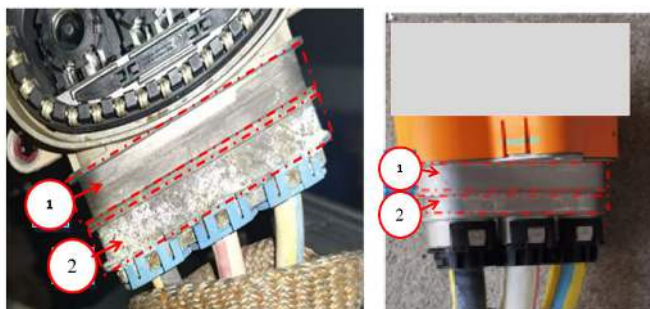
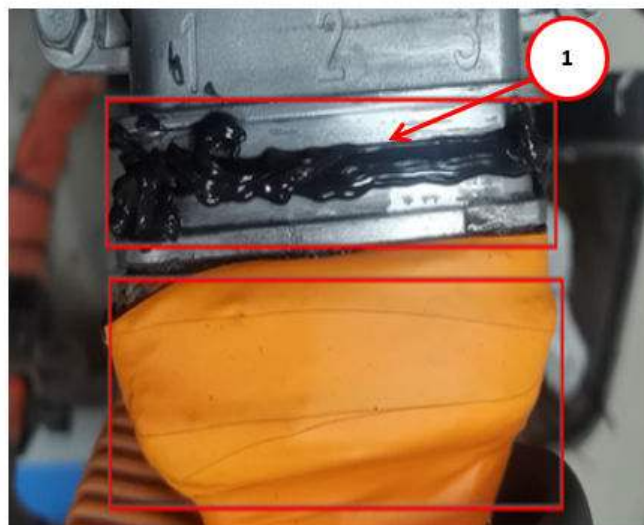

Fig. 4
Fig. 6
10. Fold the shielding layer and HV wires and make maximum exposure of the groove Fig. 4.
11. Use the wire brush to thoroughly clean the HV cable harness connector end of oxidation and dust in Zone A and Zone B Fig. 4.
13. Apply Darbond 2598 sealing compound evenly around the tightening area between the HV cable harness connector and the rubber sleeve in Zone A Fig. 4 and Fig. 6.